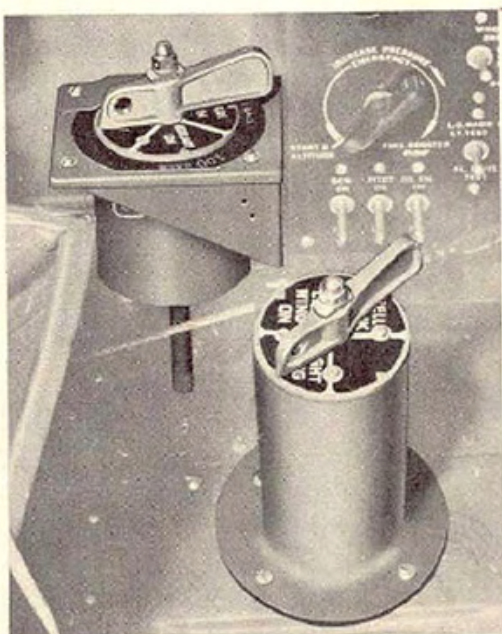
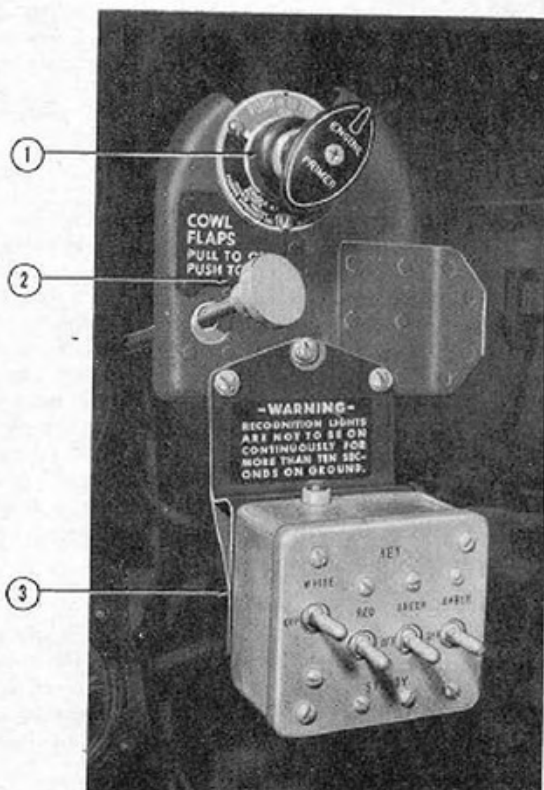

Figure 7—Fuel Selector Valves
Figure 10—1-Engine Primer, 2-Cowl Flaps Control, and 3-Recognition Light Switches
each wing. Fuel is supplied to the carburetor by means of an engine-driven pump assisted by an electric-driven, variable-speed booster pump, installed in the sump of each internal tank and controlled by a rheostat on the main switch panel. (See 6, figure 5.) When external tanks are used, a tank pressurizing system is employed to assist the engine-driven pump. Level gages (17, figure 37) in the cockpit indicate the amount of fuel in each internal tank when the airplane is in level flight position. A three-point correction chart (figure 8) is posted on the left wall of the cockpit for calculating amount of fuel aboard when the airplane is on the ground. When only approximately 40 US gallons of fuel remain in the main tank, a fuel-level warning light (6, figure 37) in the instrument panel will glow. Fuel pressure is read on the lower right scale of the engine gage unit. (See 26, figure 37.) Conventional selector valves (figure 7) permit operation from each tank individually and must be switched to the tank desired, as no internal transfer system is used. To facilitate starting and cold-weather operation, an engine primer (1, figure 10) is located in the right forward side of
e. SELECTOR VALVES.—Two conventional four-position selector valves (figure 7) are incorporated in the system. The main valve controls "MAIN," "AUXILIARY," "EXTERNAL," and "OFF." It is located on the left-hand side of the cockpit, just aft of the main switch panel. The secondary cock uses three positions only: "BELLY," "RIGHT WING," and "LEFT WING" and is located in the cockpit floor to the right and forward of the main valve. To draw fuel from the external tanks it is necessary to turn the secondary selector valve to the desired external tank and then switch the main valve to "EXTERNAL."
f. ENGINE PRIMER.—The engine priming system consists of a hand-operated pump (1, figure 10) mounted on the instrument panel. Fuel is pumped by the tank booster pump to the primer which injects it directly into the engine.
c. Recognition lights, mounted in the wing, are controlled by switches (3, figure 10) on a sub-panel to the right of the instrument panel.
Engine cooling is achieved by adjustable cowl flaps. They are hydraulically operated and controlled by a valve control (2, figure 10) mounted on a sub-panel to the right of the main instrument panel. Any intermediate setting may be obtained by releasing the control when the desired position is attained.